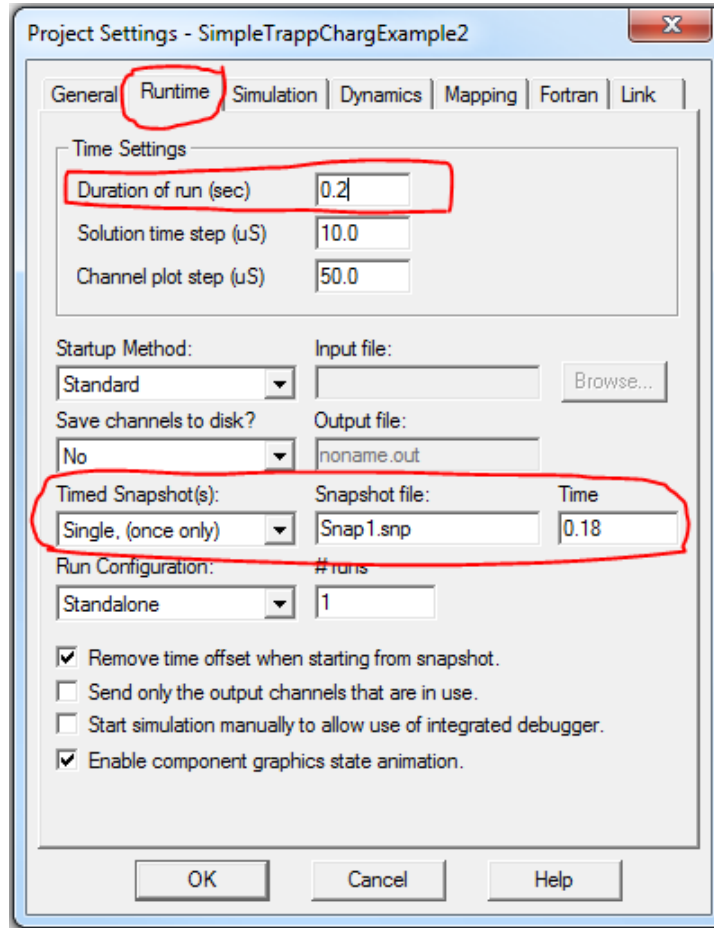

Figure 7: Setting snapshot
- Set a snapshot at 0.18 sec (Project Settings of the case) (Figure 7).